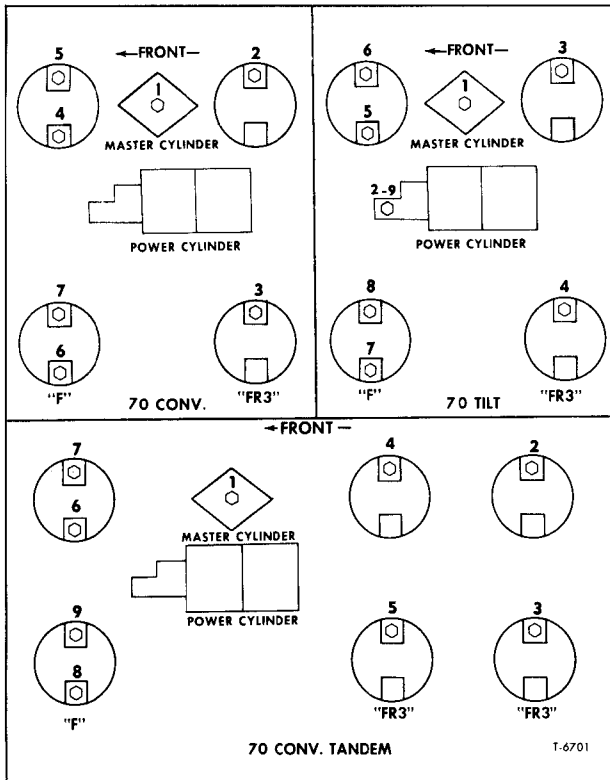

Figure 4—Brake Bleeding Sequence Chart
The need for bleeding air from system is generally indicated by a springy, spongy pedal action. The presence of air in system is a result of low fluid level in master cylinder, or of some part of the system having been disconnected. Bleeder valves are provided on power cylinder (some models), master cylinder (some models) and at wheel cylinders. Type "F" front brakes on Type "FR-3A" rear brakes have two cylinders per wheel and each has a bleeder valve. Type "FR-3" rear brakes have two cylinders per wheel with a bleeder screw at the top cylinder only. Refer to figures 4 and 5 for bleeding sequence by truck model.
It is recommended that brake system be bled in a definite sequence to obtain best results. Figures 4 and 5 illustrate various combinations of
Refer to figures 4 and 5 for bleeding sequence.
4. Bleed valve No. 2 (on power cylinder where used), then bleed wheel cylinders in sequence shown in figures 4 and 5. After bleeding wheel cylinders, repeat bleeding operations at power cylinder (where used).